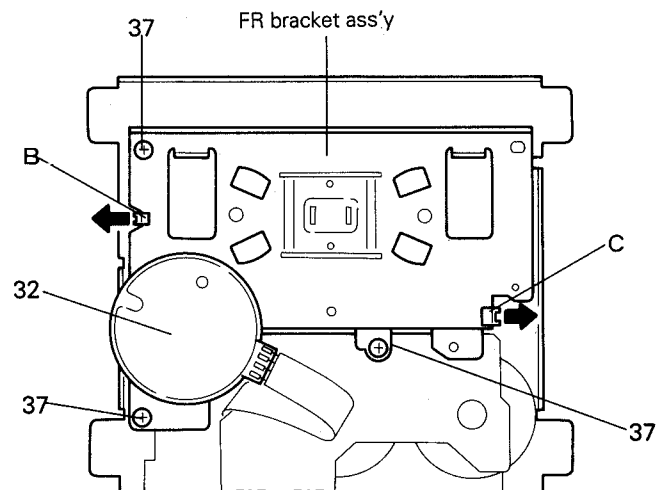

Fig. 7-24
5. Remove two screws (34) retaining the capstan motor (32) from the FR bracket assembly. (Fig. 7-24)